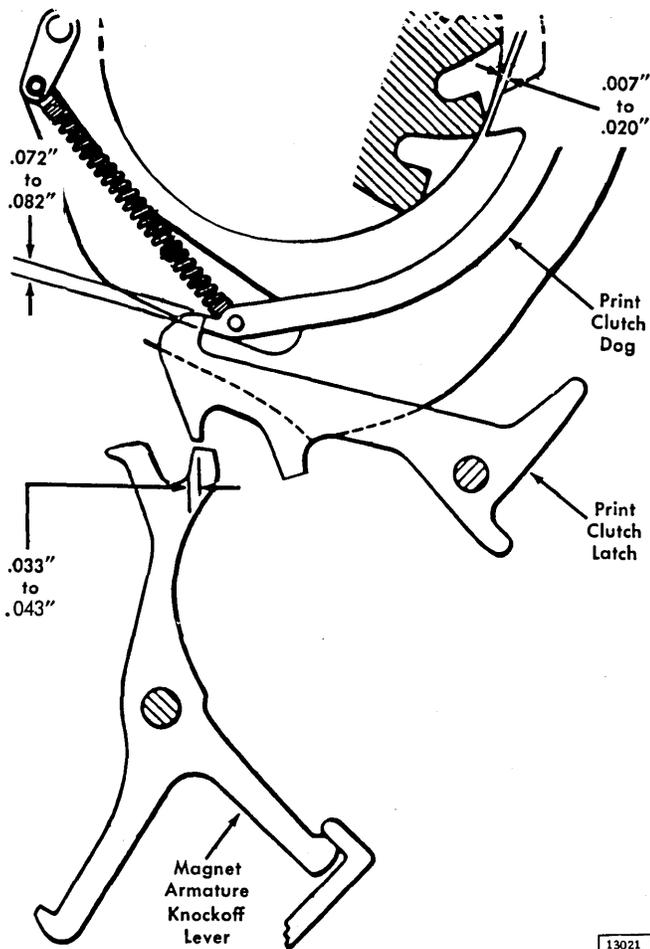

Figure 4-2. Print Clutch Latch
2. With the print magnet armature released and the print clutch latch resting on the armature knockoff, the overlap of the clutch latch on the knockoff lever should be 0.033" to 0.043" (Figure 4-2).
2. Check for 0.072" to 0.082" overlap of the print clutch dog on the print clutch latch (Figure 4-2).